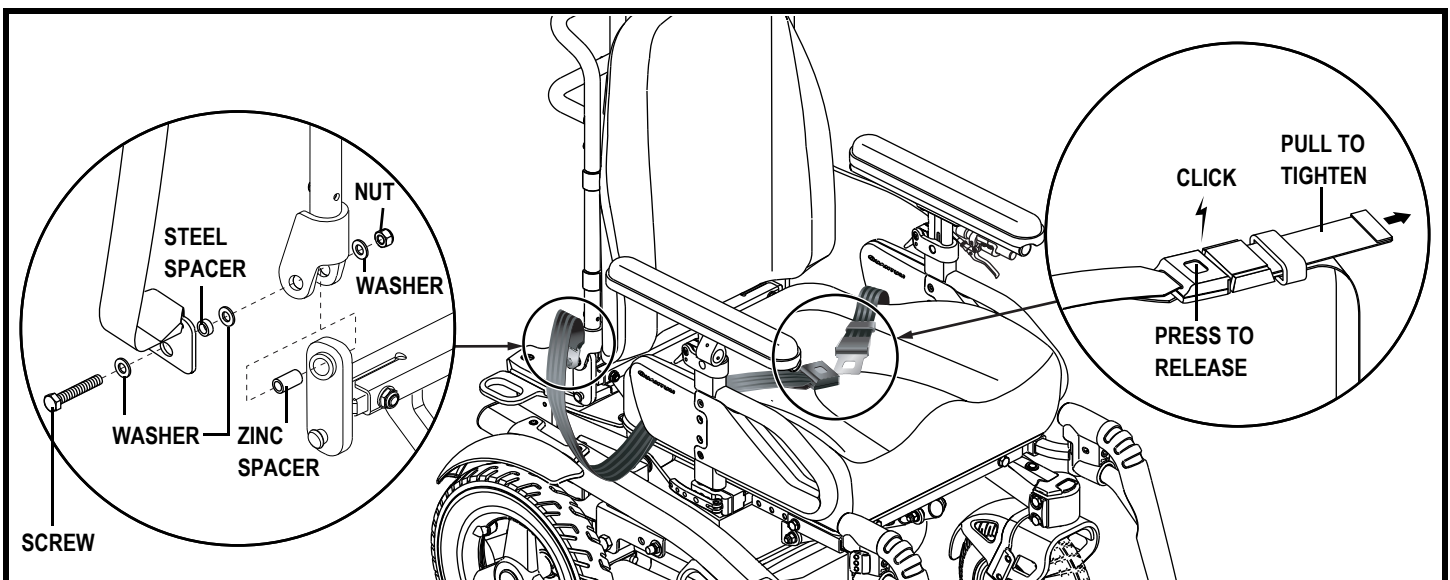

Figure 22. Positioning Belt Installation and Adjustment
Your power chair may be equipped with a positioning belt that can be adjusted for operator comfort. See figure 22. The positioning belt is designed to support the operator so that he/she does not slide down or forward in the seat. The positioning belt is not designed for use as a restraining device.
1. Insert the screw through the washer and the mounting tab at the end of the positioning belt. See figure 22.